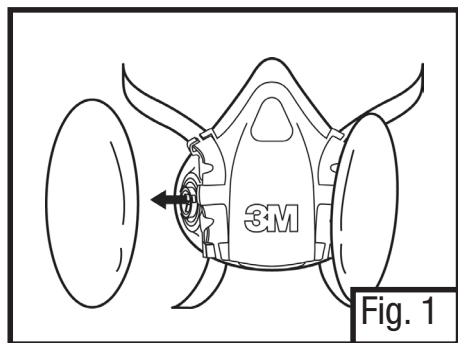

Fig. 1
1. Remove the filter from the right side of the respirator (Fig. 1).